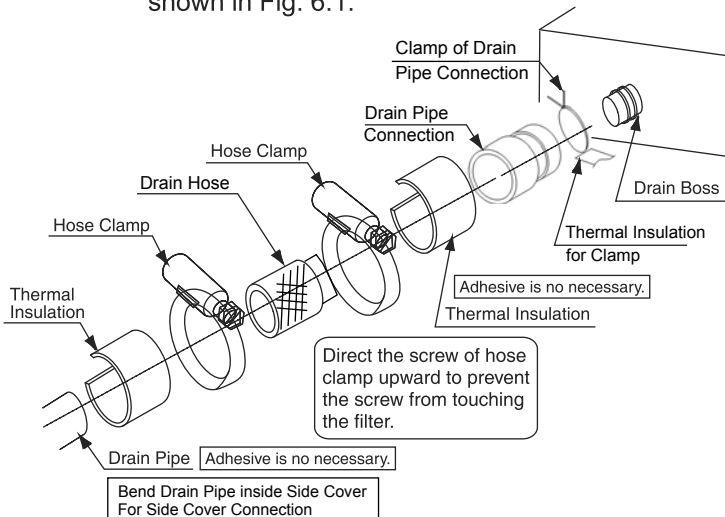

Fig. 6.1 Connecting Drain Piping
(1) For Right Side Connection
- Tighten the screw for the hose clamp in order to hold the hose around the drain connection without any leakage of drain water as shown in Fig. 6.1.
- Insulate the drain hose around the hose clamp to prevent any condensation as shown in Fig. 6.1.